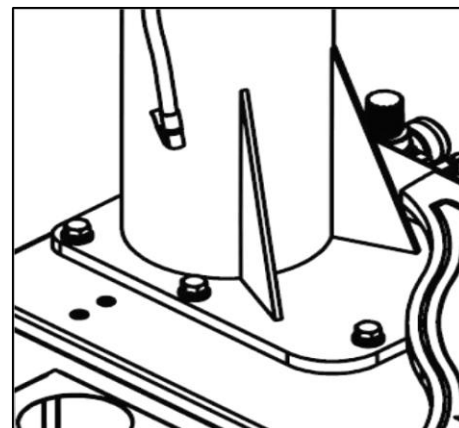

FIG5
3.2.2 Place the column on the body. The direction of the warning label is forwards. Make the holes on the column base plate align to thread holes on the body. Once again assemble the removed the bolt (3.2.1), elastic washer and plate washer and plate washer removed in 3.2.1. The torque is 70 N·M (FIG5) Use torsion wrench to tight.